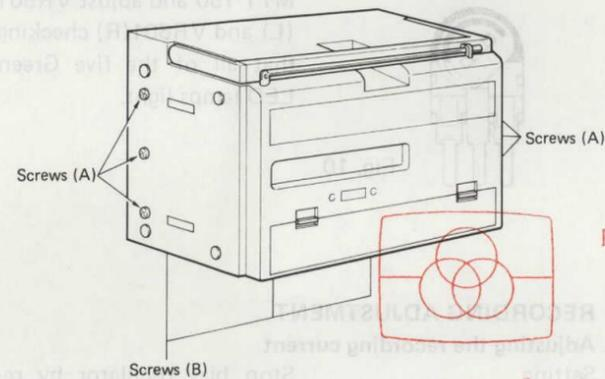

Fig. 1
- 1) With both the right and the left speakers disconnected, and the six screws (A) on the left and right sides and the three screws (B) on the bottom. (Please refer to Fig. 1).